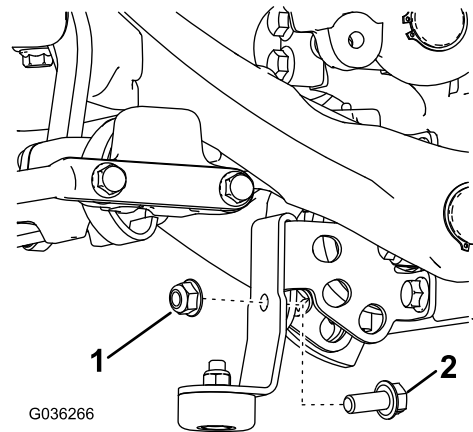

Figure 2
2. Slide the stop mount onto the balance mount bracket of the suspension arm, and secure it with a bolt (5/16) and flange nut (Figure 2).